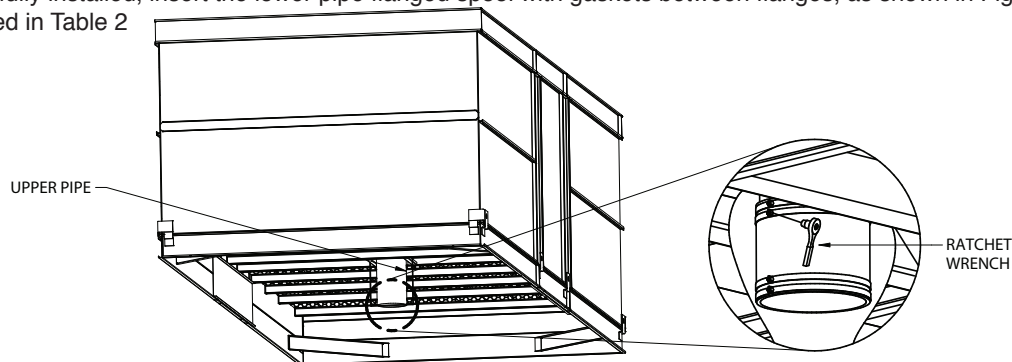

Figure 7 - Casing Bottom Inlet Piping
4. Tighten all pipe clamps (4 per basin: 2 on the upper). A ratchet wrench is recommended (See Figure 7).